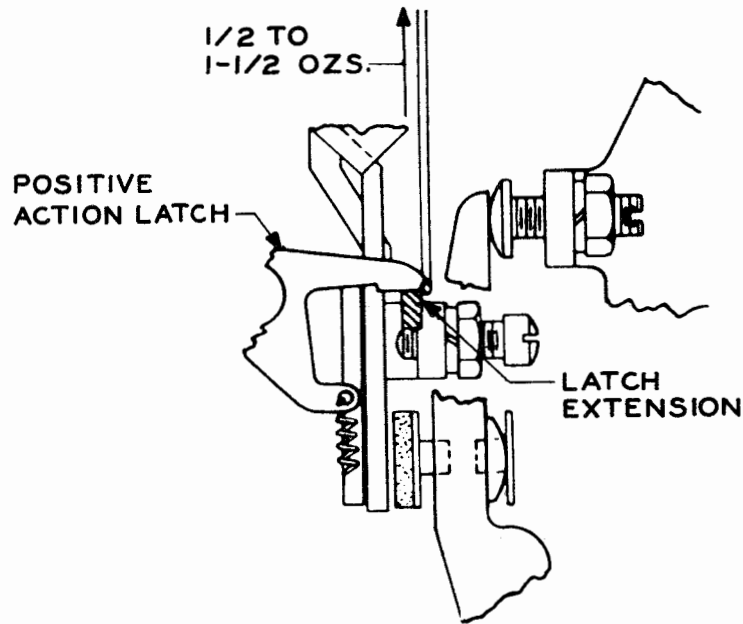

Figure 17
2.30 Positive-action Latch Spring should require a pull as specified in the figure to just start the positive-action latch moving away from the latch extension, when the punch-contact operating lever is resting against its backstop screw and the positive action latch is resting against the latch extension on the lever. See Figure 17.